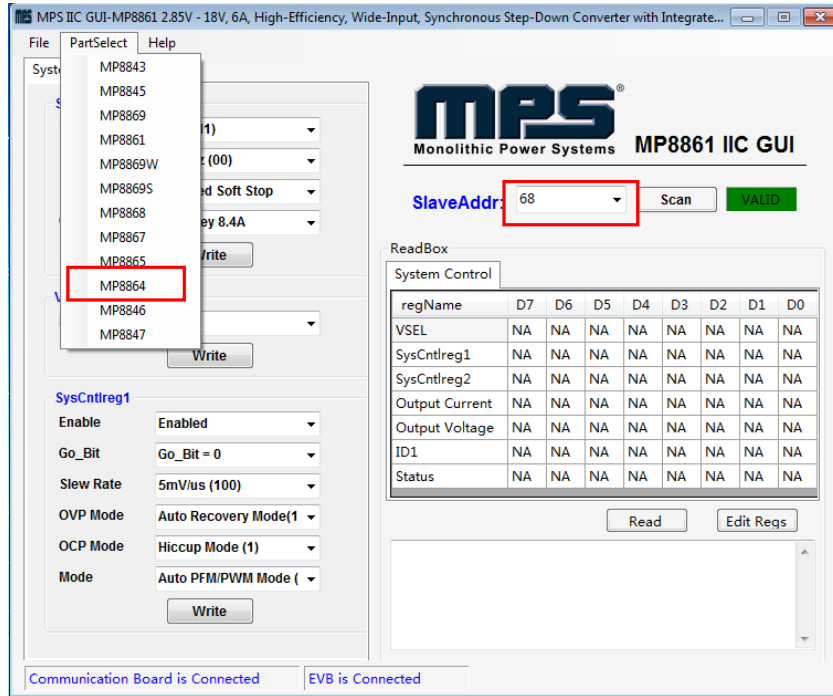
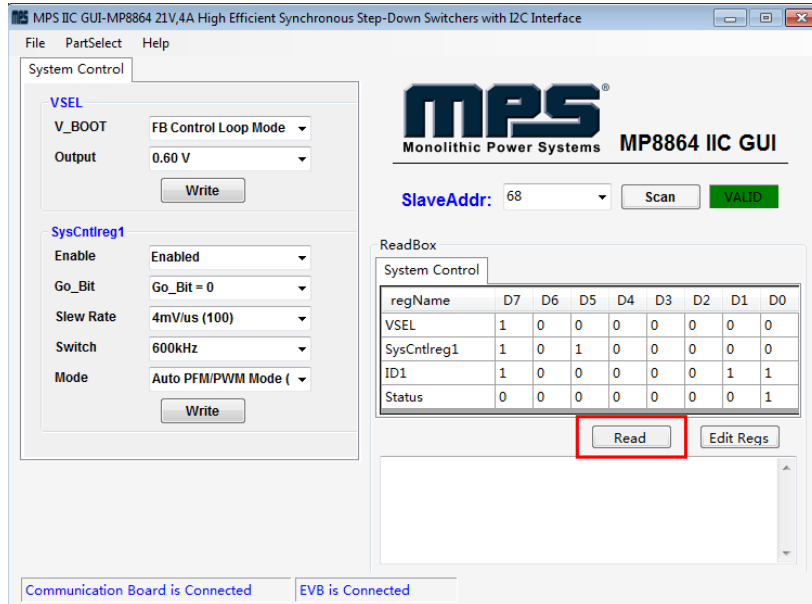

Figure 7: Appearance of Address Shows Successful Connection
Figure 9: Values from I²C Shown in Table
- If connection is successful, the address will be listed in the “Slave Address” (see Figure 7).
3. Click the **PartSelect** button to select the MP8864 (see Figure 7) (The default GUI window is for the MP8861). The Register Control menu will appear on the left side. The I²C register values will be read and displayed on the right side after clicking **Read** button (see Figure 9).